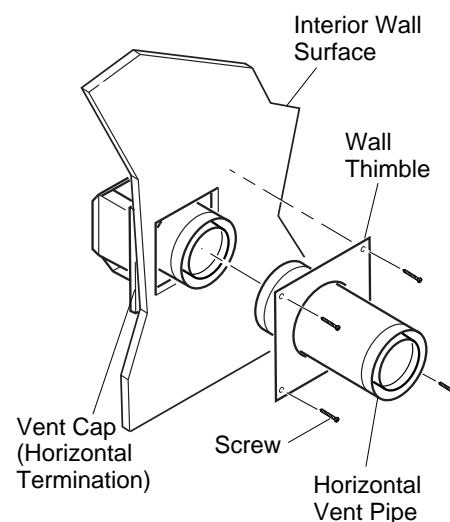

Figure 15 - Connecting Vent Cap with Horizontal Vent Pipe
5. Slide the wall thimble over the vent pipe before connecting the horizontal run to the vent cap (see Figure 15).
7. Slide the wall thimble against the interior wall surface and attach with screws provided (see Figure 15).